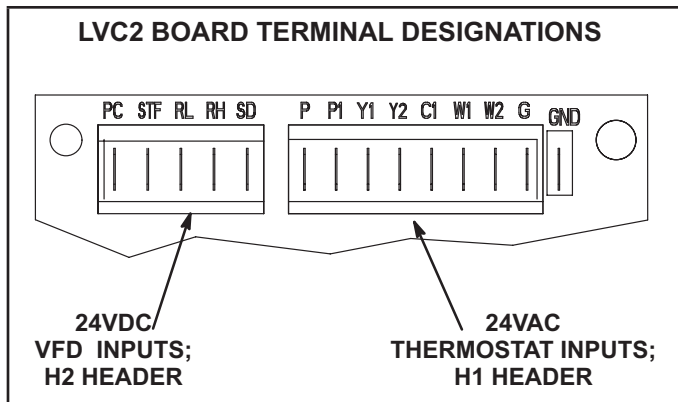

FIGURE 6
- 3 - Check for 24VAC signal at the thermostat blower input (G to GND terminal). See figure 6.